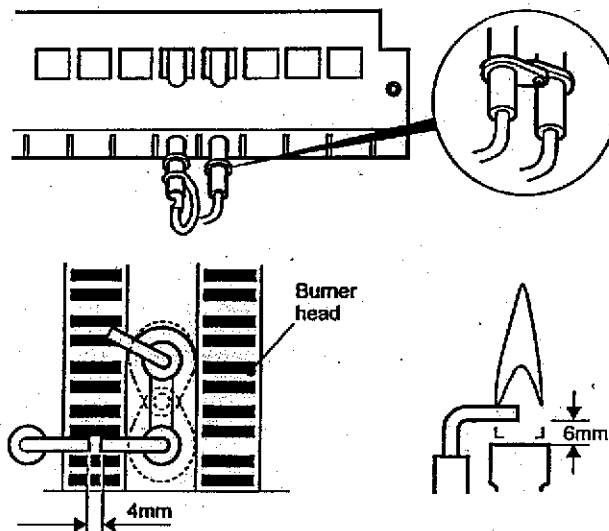

Fig. 17
Check the electrode gaps and positions (see Fig. 17) ensuring that the ignition electrode tips are:
- 3 From underneath the burner, remove the screws securing the electrodes and withdraw them. Transfer them to the new burner. Ensure that the earth lead is connected and that the ignition electrodes are positioned before fitting the flame sensing electrode. Check the electrode gaps. See Fig. 17.
- 4 When refitting the electrodes, the earth electrode is at the left and the ignition electrode/flame sensing electrodes are at the right, secure in position with the screws previously removed. See Fig. 17. Ensure the earth lead is connected by the L/H electrode fixing screw, the R/H ignition electrode bracket is positioned first (white lead) then the flame sensing electrode (blue lead) bracket is positioned on top before securing in position (electrode positions are as viewed with the burner removed).
- 5 Check the electrode gaps and positions (see Fig. 17) ensuring that the ignition electrode tips are:-